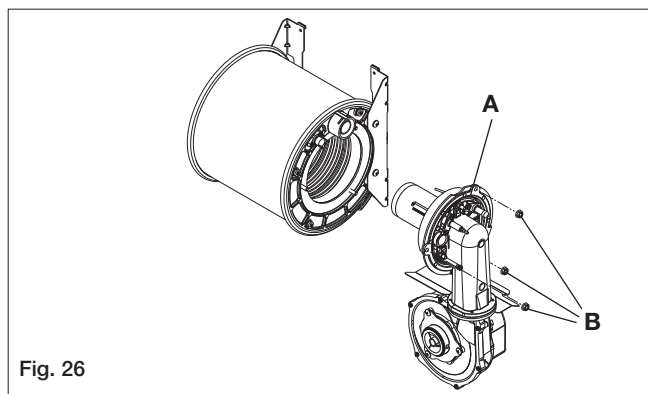

Fig. 26
**Fig. 26:** To remove the fan/burner assembly (A) locate and remove the 3 external nuts (B). Replace in the reverse order. Ensure all seals are in good condition, taking care to ensure they are replaced correctly.